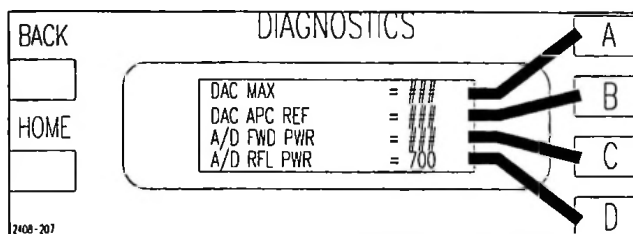

Figure 5-8 A/D RFL PWR Screen
- STEP 8** Press [HOME, MORE, CONFIGURATION C,B]. You should now be at the screen shown in Figure 5-8, A/D RFL PWR. Re-adjust R128 until the A/D RFL PWR reading is 700. Go slowly, the adjustment is sensitive.